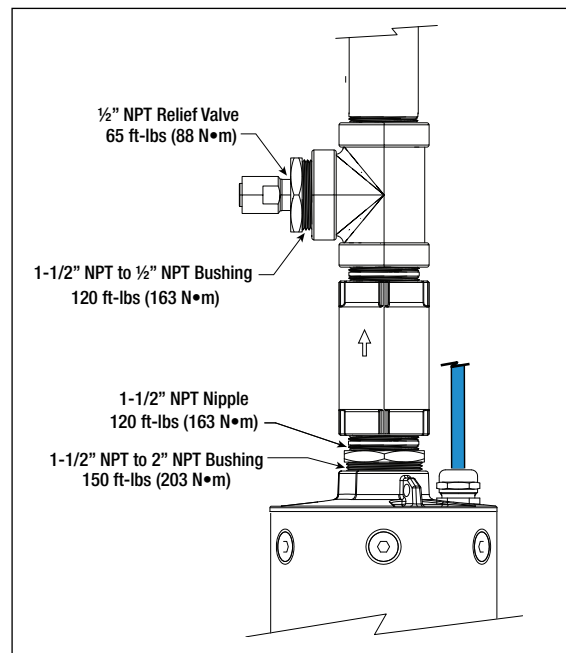

Figure 6. Attaching PMA to Column Piping
3. Apply Loctite 7090 primer and coat Loctite 567 sealant on threads of 2" stainless steel bushing adapter and hand screw PMA onto column pipe assembly. Tighten 2" NPT outlet of the PMA to 150 ft-lbs (203 N.m) minimum. If further PMA installation assistance is required (see Figure 6), refer to Franklin Electric Fueling Systems Manual 403414001 or 403395001 DEF Pump Motor Assembly Replacement Guide.